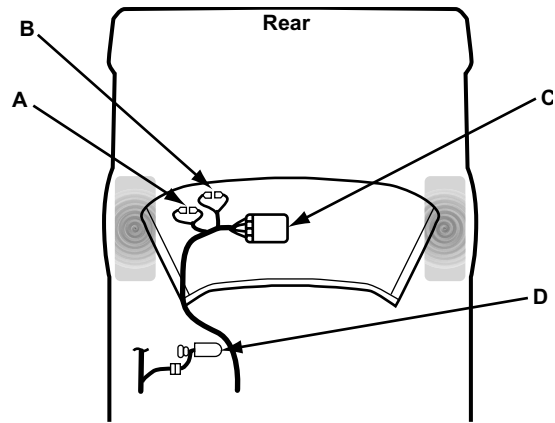

Figure 15-41 1987-91 XT models (connector in the trunk)
- “1987-91 XT models (connector in the trunk)” on page 197 (Figure 15-41)